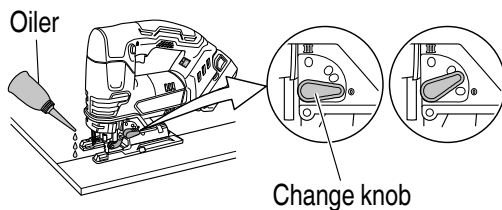

Fig. 25
4. Cutting metallic materials (**Fig. 25**)